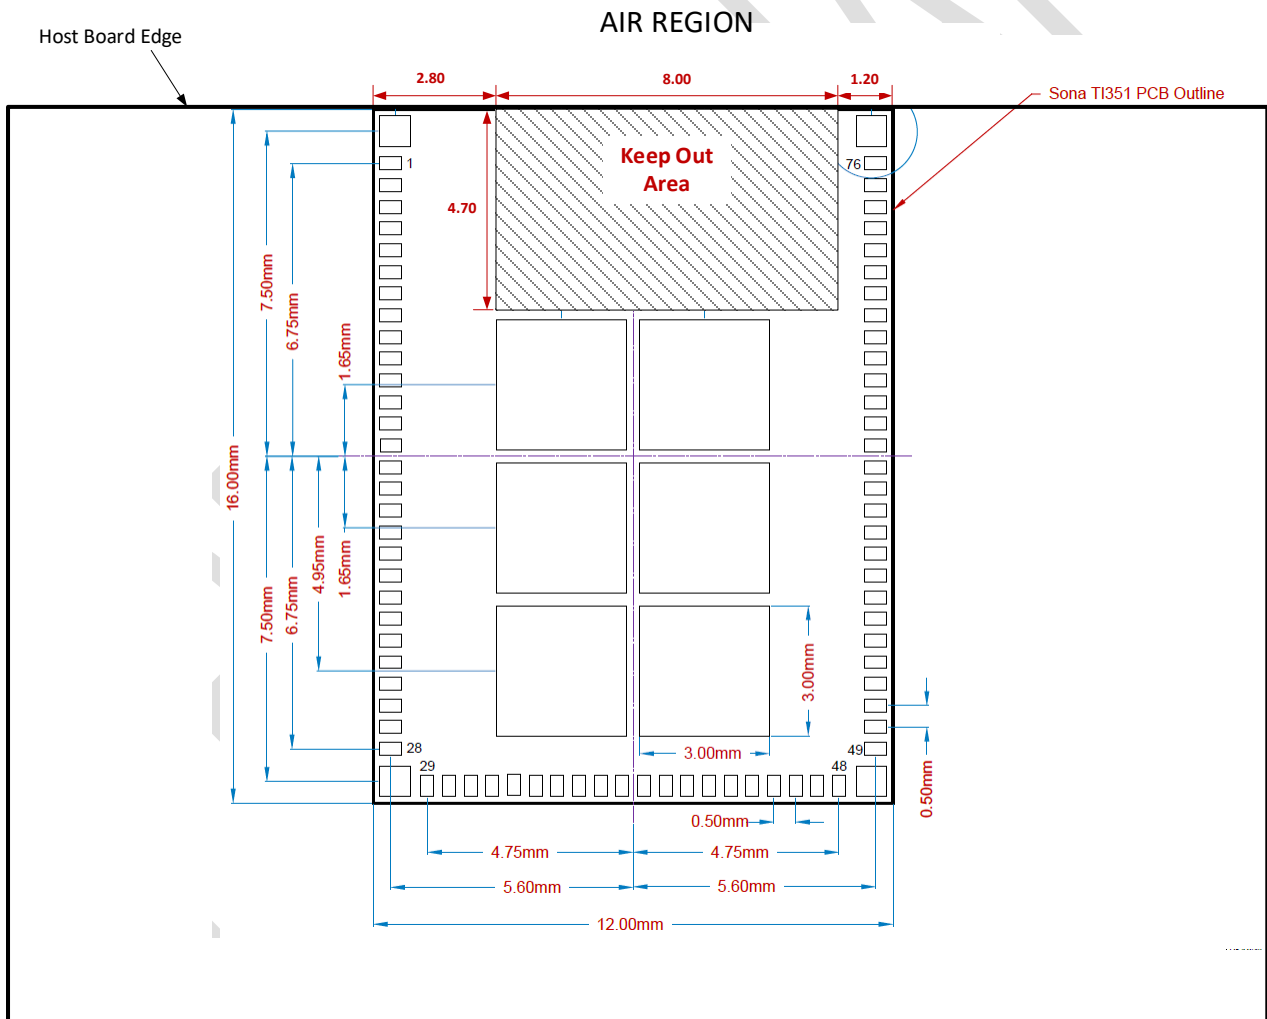

Figure 14: TI351 Integrated Chip Antenna Module Host Board Keep Out requirements.
- The antenna keep out region as defined in **Figure 14** must be kept clear of copper on all layers of the host PCB.